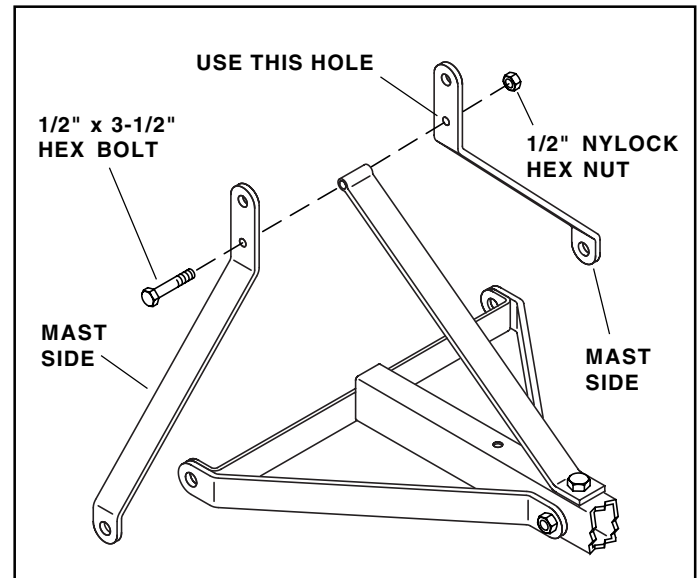

FIGURE 6
6. Attach two mast sides to the mast support using a 1/2" x 3-1/2" hex bolt and 1/2" Nylock hex nut. Use the end of the mast side with two holes, inserting the hex bolt through the smaller hole. **Do not tighten yet.** See figure 6.